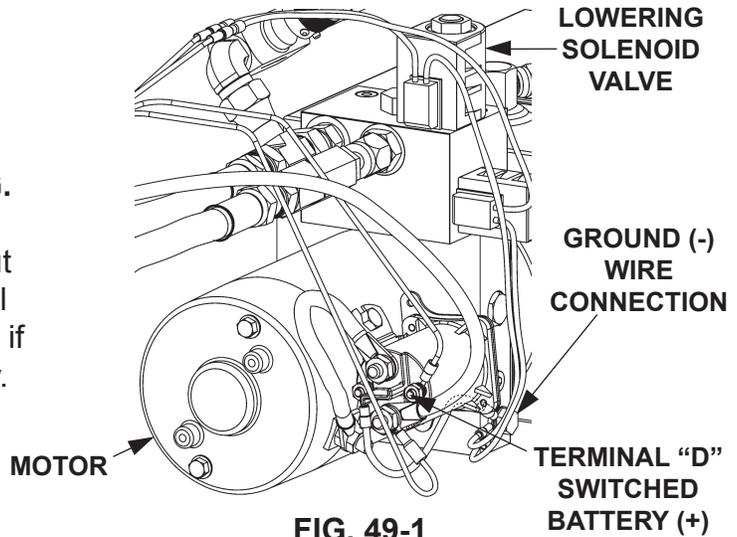

FIG. 49-1
1. Check if lowering solenoid valve is constantly energized. Connect voltmeter negative (-) lead to ground (-) wires connection on pump and positive (+) lead to terminal "D" (FIG. 49-1). If voltmeter reads battery voltage (+12.6 volts dc minimum) without pushing the toggle switch, the control circuit is operating incorrectly. Check if toggle switch, wiring or coil are faulty.